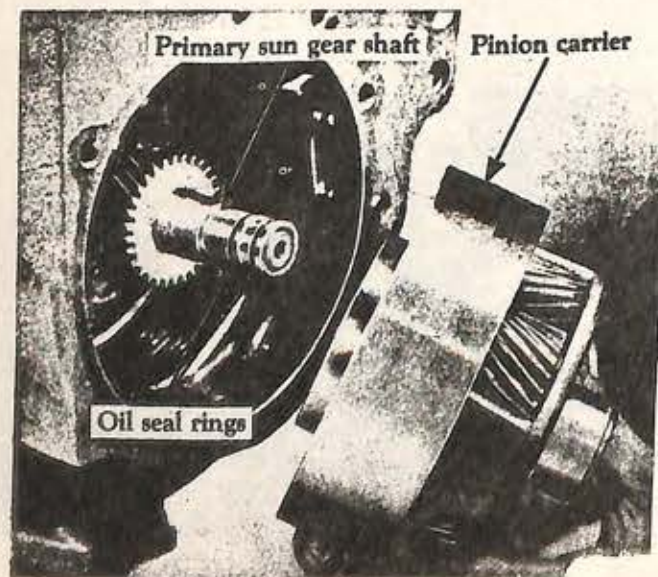

Fig. 51
3. Remove the pinion carrier from the primary sun gear shaft (Fig. 51).
4. Remove the two oil seal rings from the primary sun gear shaft (Fig. 51). **CAUTION:** Do not distort the rings.